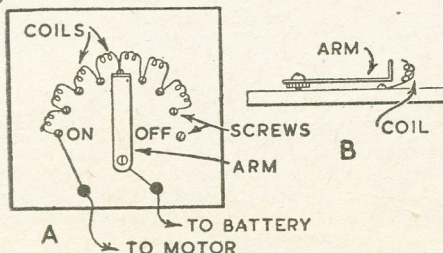

Fig. 1—Layout of circuit and side view
The controller is built on a wooden base about $2\frac{1}{2}$ ins. by $2\frac{1}{2}$ ins. by $\frac{1}{4}$ in. thick. On this, mark off a semicircle with a radius of about 1 in. and divide this into nine or ten equal sectors. At each point screw in a small brass round-headed wood screw, as shown (A) in Fig. 1. Do not drive these screws in completely yet.
Two small terminals are mounted on the base. The loop of wire mentioned goes to one. The second is connected to one screw in the semicircle, marked 'ON' in Fig. 1.
join the two ends thus formed to the terminals (see Fig. 1). When the switch is in the 'OFF' position no current will flow. The current will increase as the arm is moved round, reaching maximum at the 'ON' position, with no resistance in circuit.